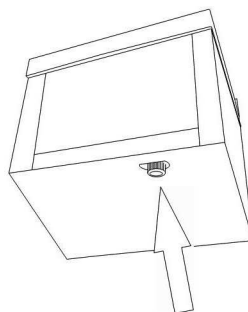

Fig. 4
- The proportion of hot and cold water is controlled using the regulating screw (fig. 4).